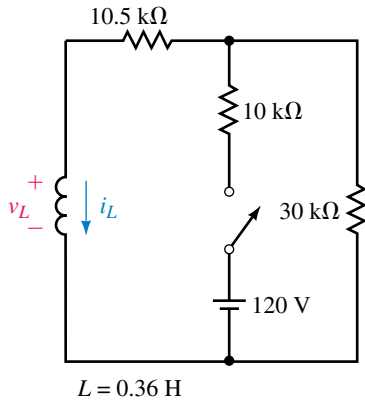

FIGURE 14-46
22. Refer to Figure 14-46:
23. For Figure 14-46, the circuit has reached steady state with the switch closed. Now open the switch.